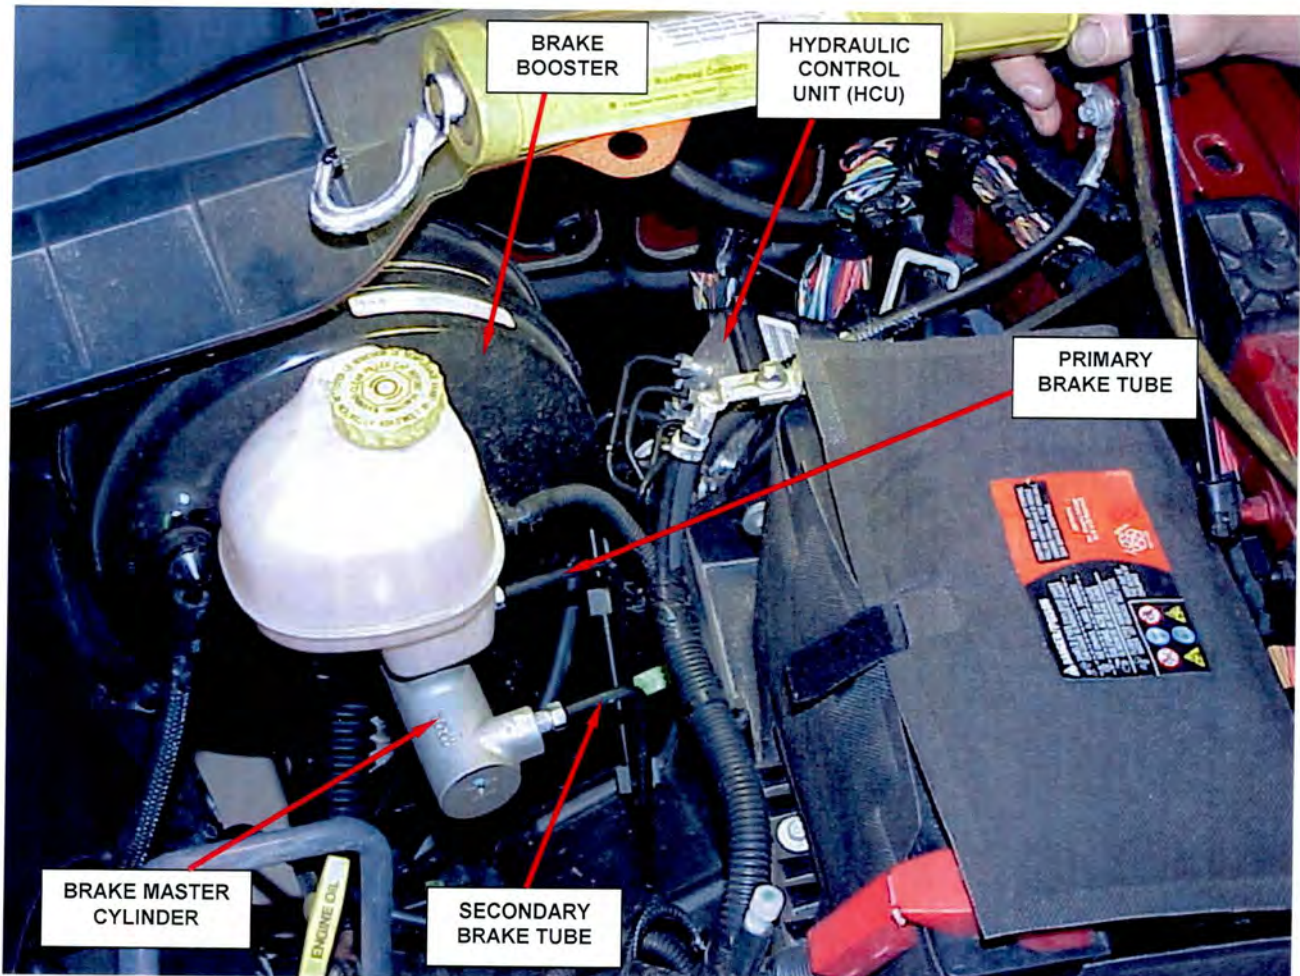

Figure 1 – Component Location
3. Disconnect the primary and secondary brake tubes at the master cylinder (Figure 1).
4. Disconnect the primary and secondary brake tubes at the HCU (Figure 1).